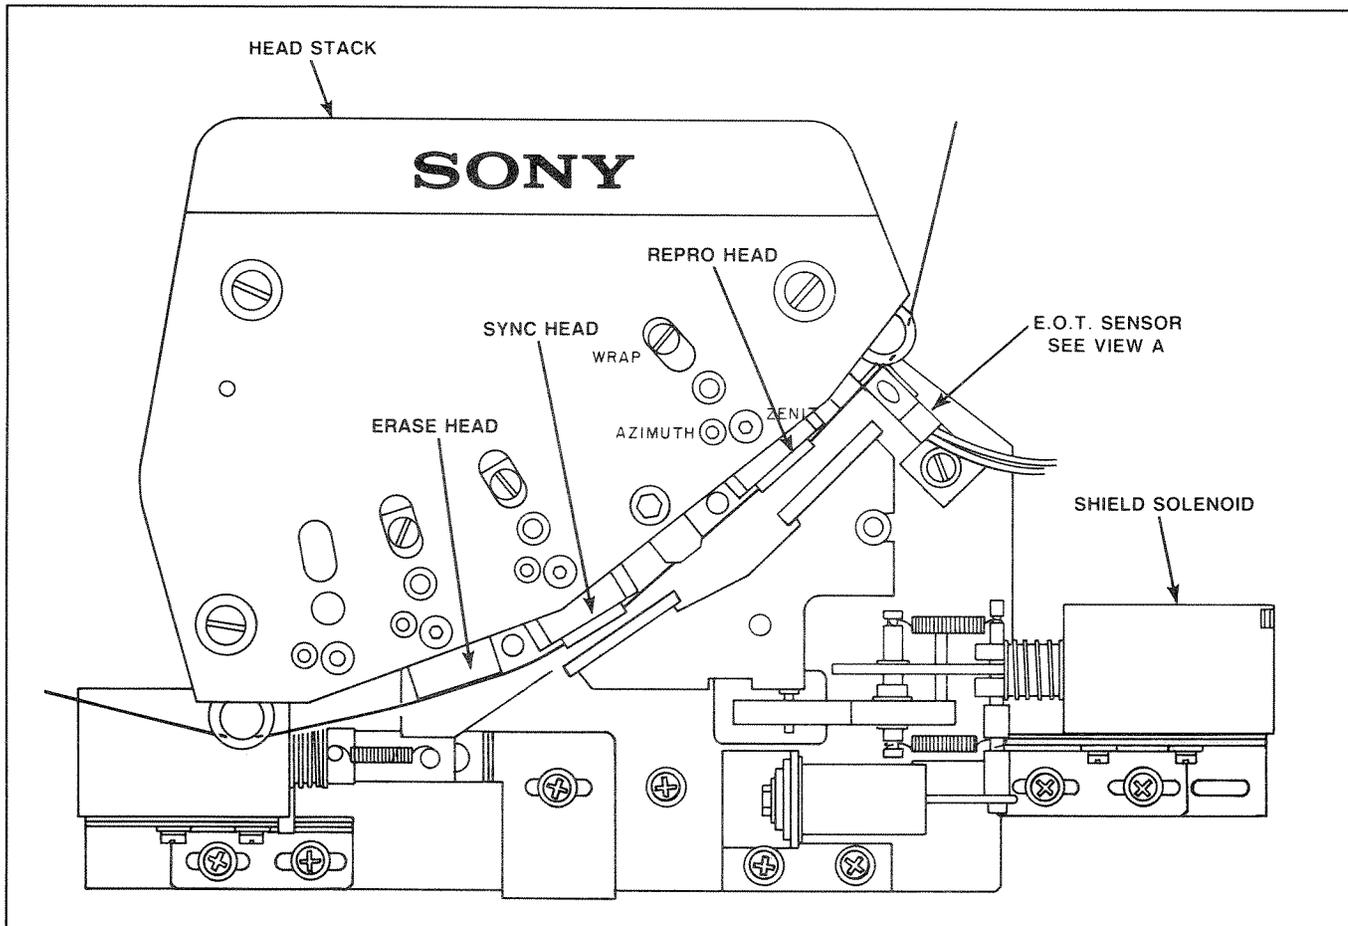

Figure 6-26. EOT Sensor Positioning
STEP 3 Loosen the EOT sensor mounting screw referring to Figure 6-26.